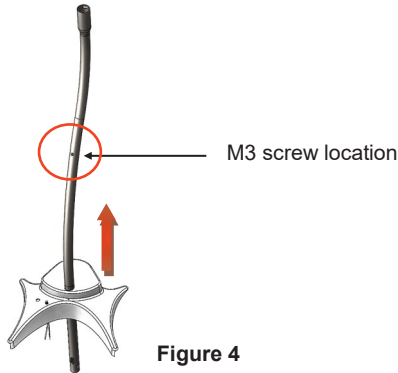

Figure 4
- Take the non-flared end of the post base and slide it through the post opening of the base cover. This can be seen in Figure 4.
- Using the 2.5mm Allen key, remove the M3 screw on the post. It is located approximately half way up the post. Refer to Figure 4, 5.